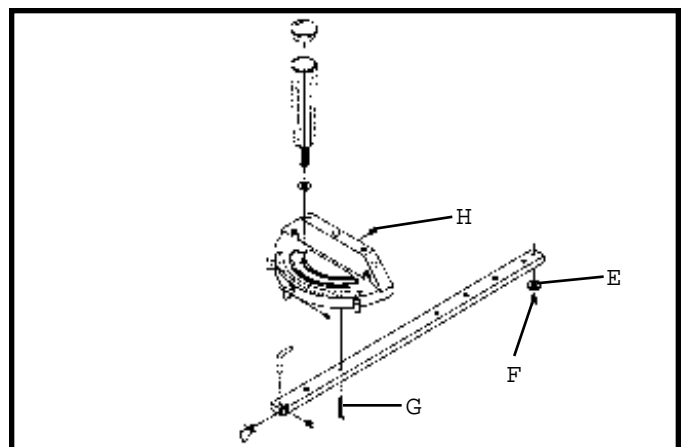

Fig. 86
5. The miter gage is equipped with a special washer (E) Fig. 86, and flat head screw (F), which are to be assembled to the end of the miter gage bar.
6. The head of the miter gage pivots on a special tapered screw (G) that fastens the head to the miter gage bar. If the miter gage head does not pivot freely, or pivots too freely, it can be adjusted by loosening set screw (H) Fig. 86, and turning the screw (G), in or out. Be certain to tighten screw (H) after adjustment is made.